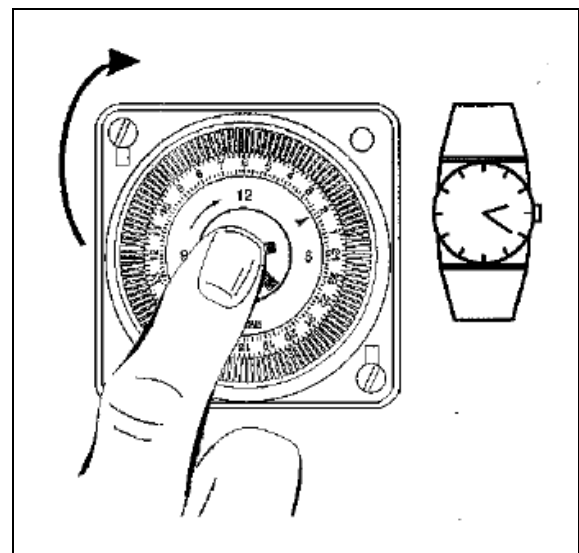

Fig. 13
- Set the minutes by turning the minutes hand on the internal ring clockwise (fig.13);